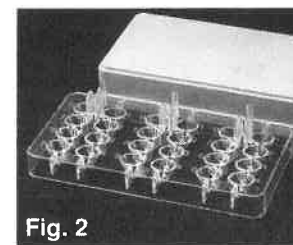

Fig. 2
2. The Dipwell Tray and its protective lid. See Figure 2.